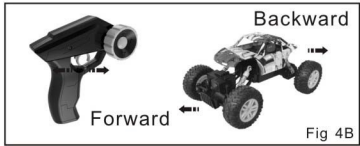

Fig 4B
- 1.Forward/Backward: To push the Trigger back/ahead, the truck would go forward/backward. (Fig 4B)